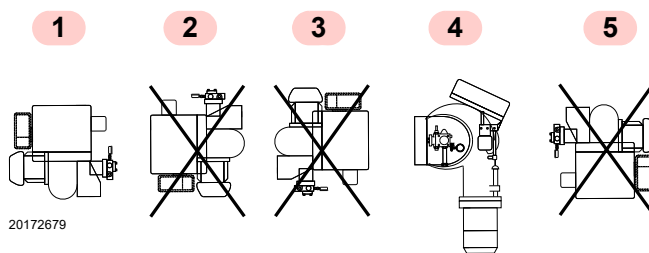

Fig. 9
- The burner is designed to work only in positions 1 and 4 (Fig. 9).